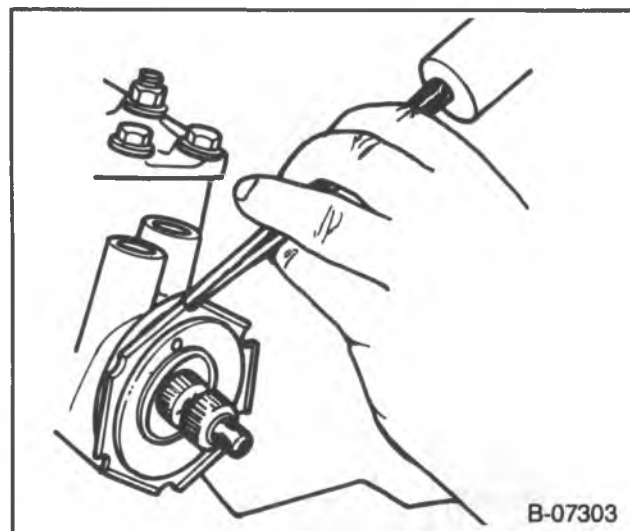

Figure 15 — Loosening Adjuster Plug Nut
1. Loosen and remove the adjuster plug nut (6) (figure 15).
2. Turn the adjuster plug (3) in (clockwise), using J 7624, until the plug and thrust bearing are firmly bottomed in the housing.